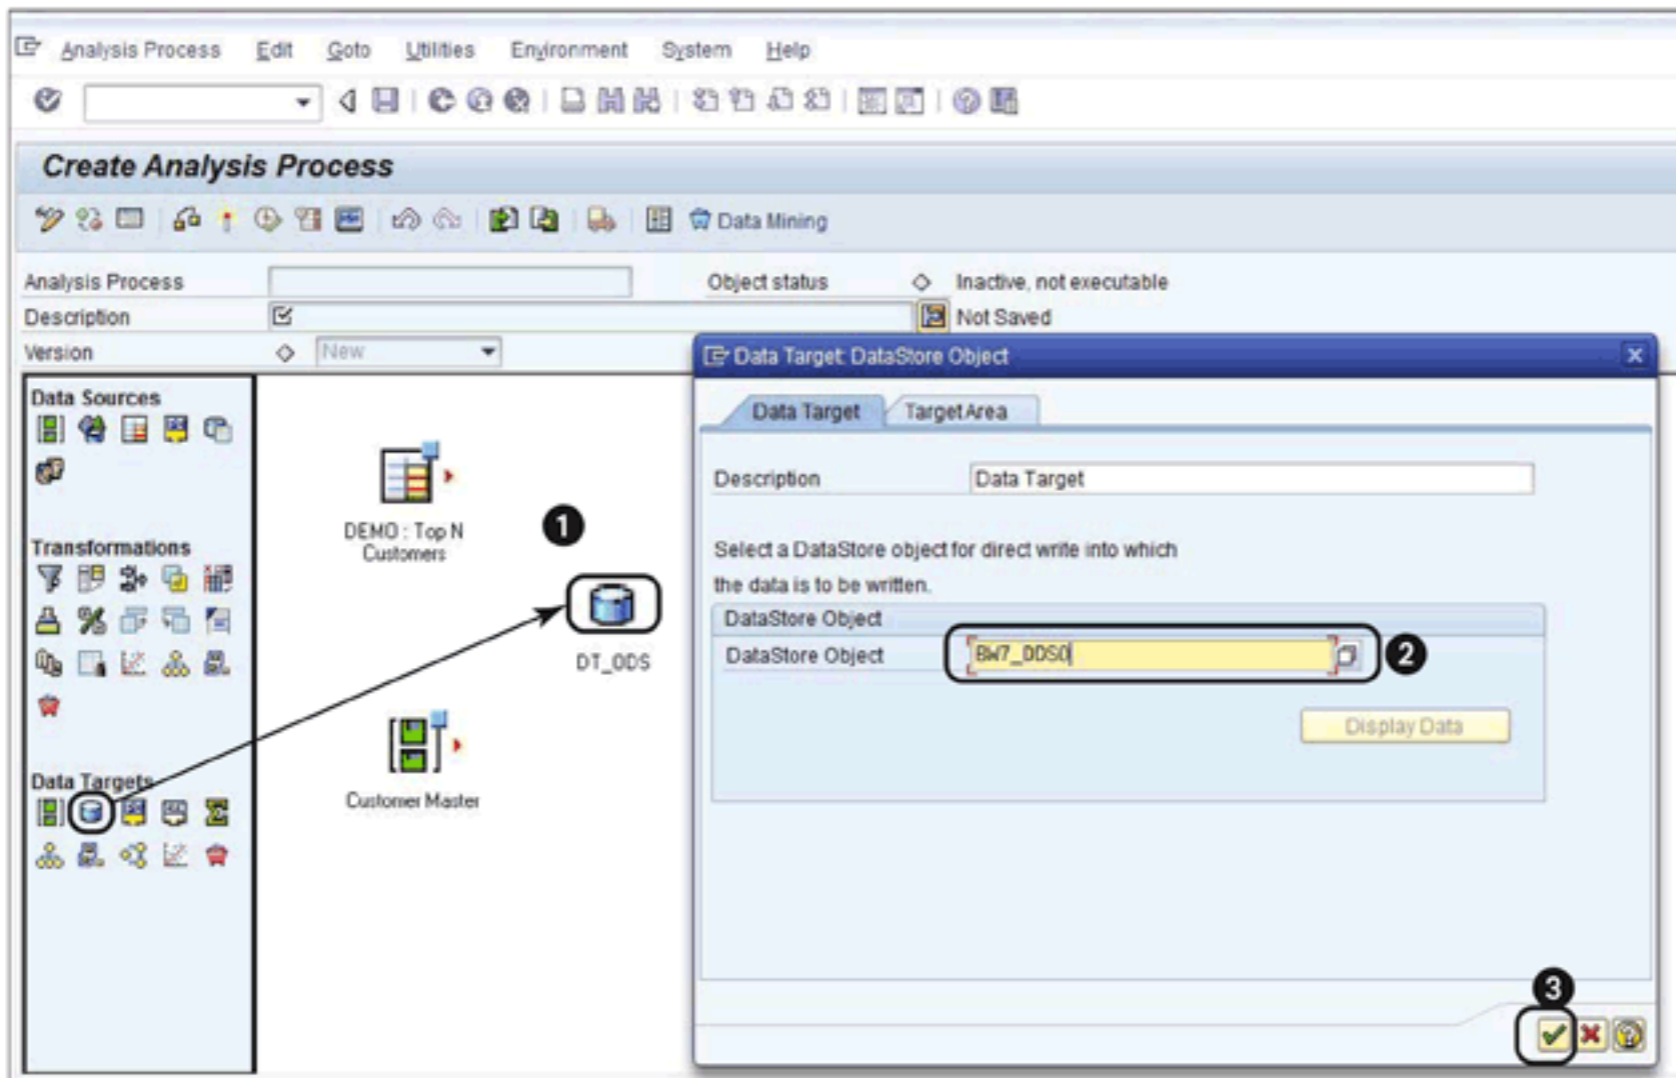

Figure 15.9 Add Data Target: Direct Update DSO
Drag the DIRECT UPDATE DSO icon from the DATA TARGETS area to the design area (❶ of Figure 15.9), and select the direct update DSO to where the data from the analysis process should be saved (❷). Press to return to the design screen.